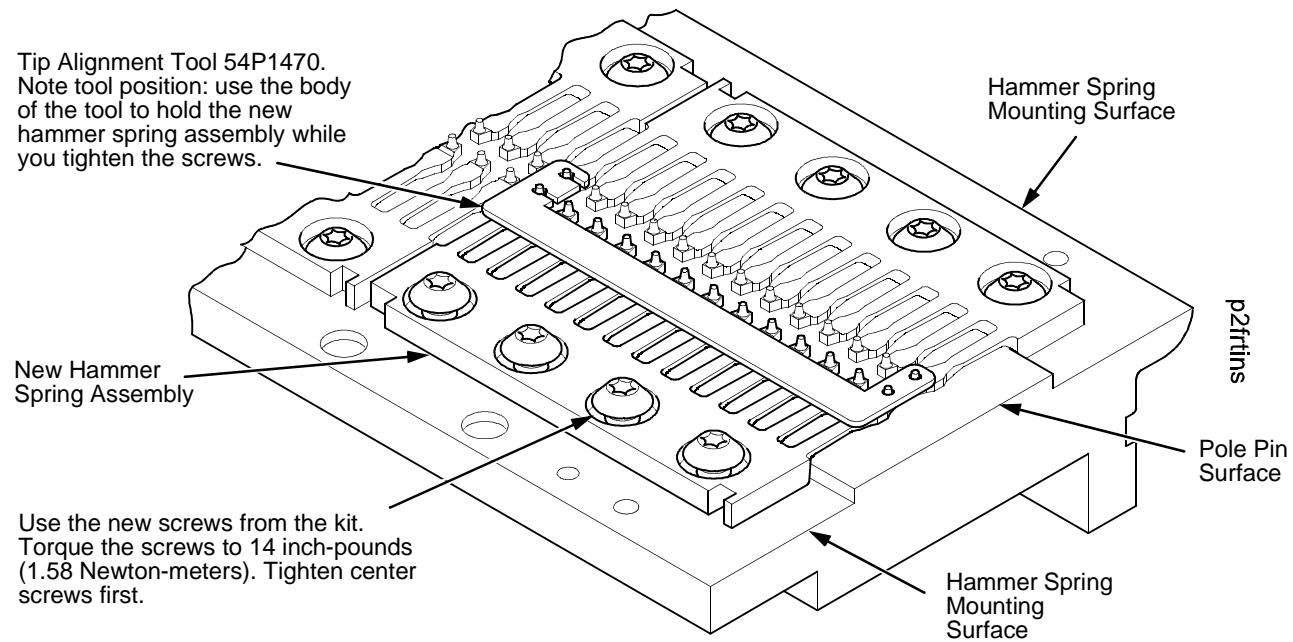

Figure 21. This figure shows how to use the short tip alignment tool to install hammer spring assemblies on a dual hammer bank.
3. Handling the hammer spring assembly by the mounting base only, position the new assembly on the hammer bank and install the mounting screws from the replacement kit finger tight. (See Figure 21.)
4. Gently position Tip Alignment Tool 54P1470 so that hammer tips from the new spring assembly and tips from the spring assembly "above" it are in the holes, as shown in Figure 21. Hold the new hammer spring in this position with the tool and use a Torx T-10 bit adapter to torque each screw to 14 in-lbs (1.58 N•m). Tighten the center screw(s) first. (See Figure 21.)